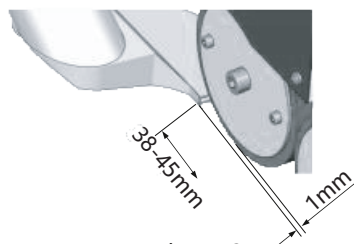
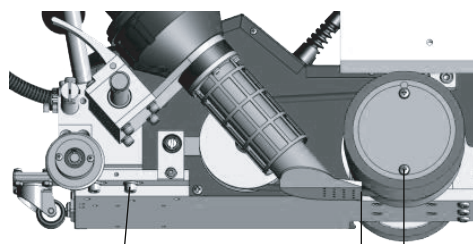

Figure 6
Figure 7
- 2、 The distance between hot air nozzle and Drive roller should be shown as figure 6 (We have adjusted the distance) . You can adjust Hot air nozzle adjusting screw figure 7 if the distance is not right.